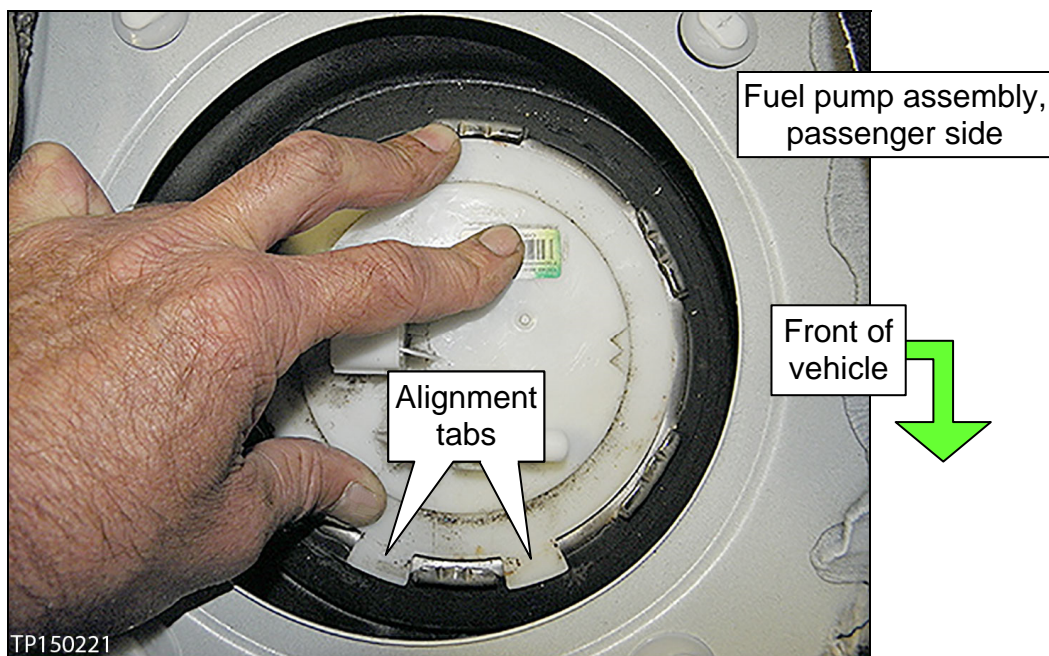

Figure 9
- Observe the alignment of the fuel pump assembly tabs (see Figure 9).